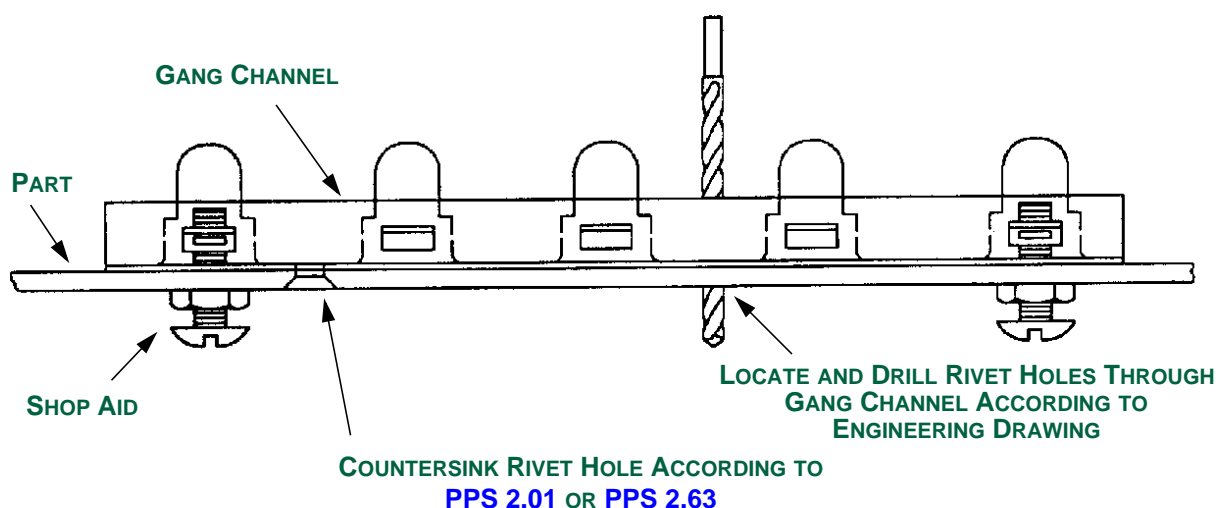

FIGURE 9 - INSTALLATION OF GANG CHANNELS
5.2.4.2 For gang channels, locate and drill holes as follows (see Figure 9):